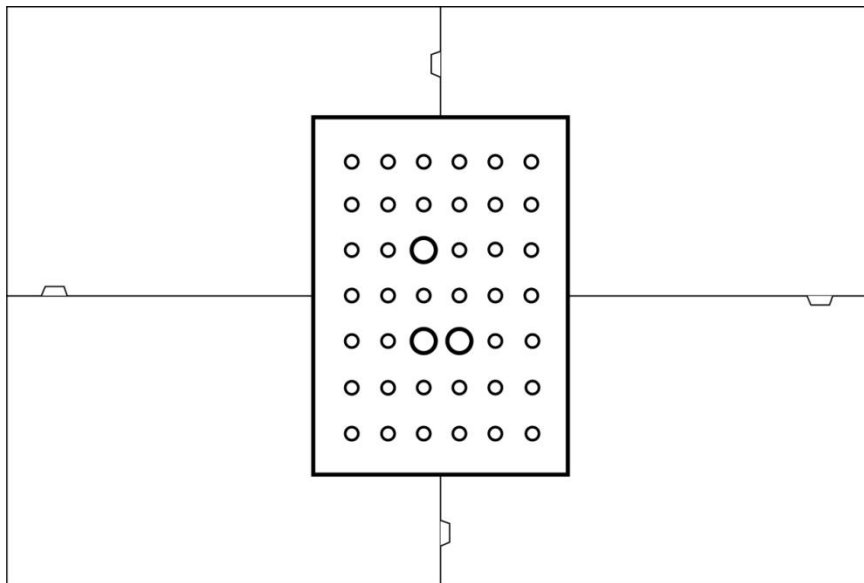

Figure 6-1 Master Plate and Accessories Placement of 3DeVOK MT
2. Take out the expansion accessories from the case, assemble it, and place it around the master plate, as shown in Figure 6-1.
- The master plate must be positioned according to the direction shown in Figure 6-1 and the software UI guidance. Incorrect orientation will cause calibration lag.